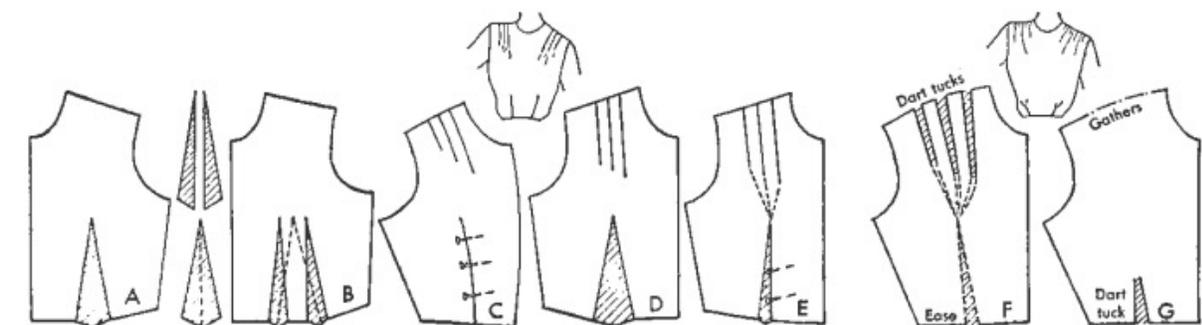

Fig. 35. Dividing one wide dart into groups of three or more narrow darts. B, Method I. C, D, E, F, Method II.
1. Make a paper copy of the single dart, either the basic dart or a dressmaker's dart. Erase the drawing, A (Fig. 35).